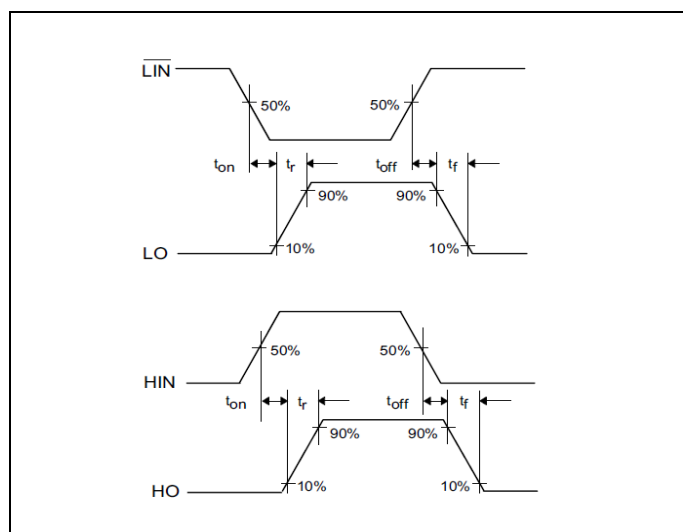
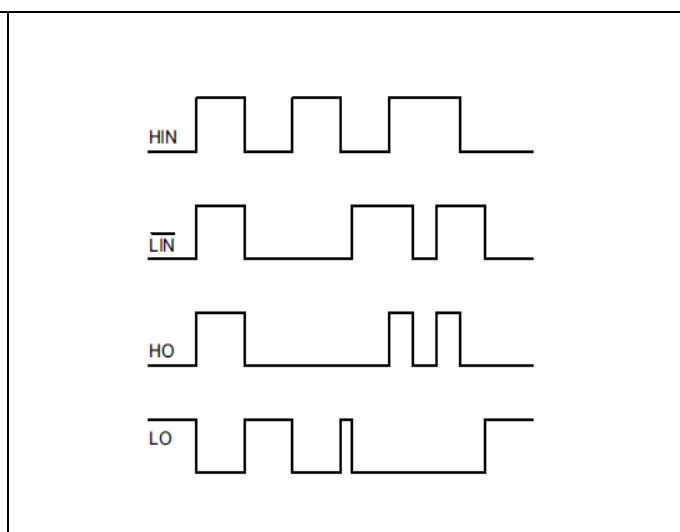

Figure 6 Switching timing diagram
Figure 7 Input/output logic diagram
The relationships between the input and output signals of the 2ED2183 (4) S06F (J) are illustrated below in Figure 6 and Figure 7. From these figures, we can see the definitions of several timing parameters (i.e. t_{ON} , t_{OFF} , t_R , and t_F) associated with this device.